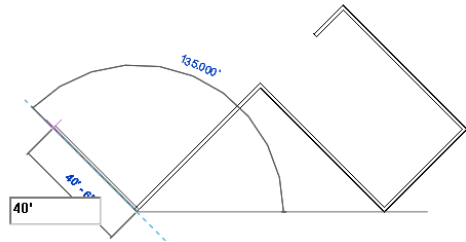

Figure 3-48 Sketching the sixth inclined wall segment
9. Next, create the connected wall segment of **40'(12192 mm)** length, as shown in Figure 3-48.